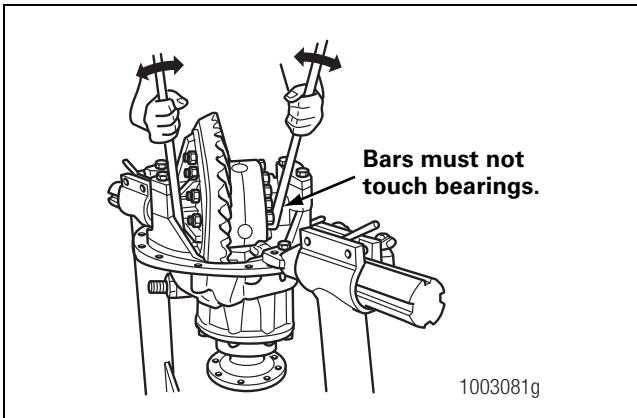

Figure 5.38
- B. Insert two pry bars between the differential case or the ring gear and the carrier at locations other than described in Step A. The pry bars must not touch the differential bearings. Figure 5.38.